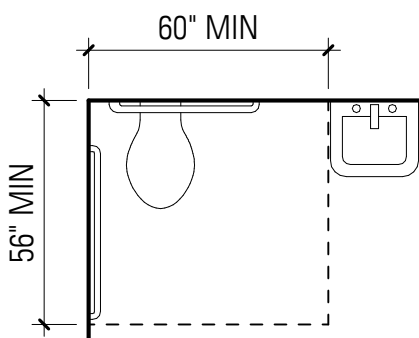

FIGURE 604.3
- A. CLEAR FLOOR SPACE FOR WATER CLOSETS NOT IN STALLS SHALL BE PROVIDED AS SHOWN IN FIGURE 604.3